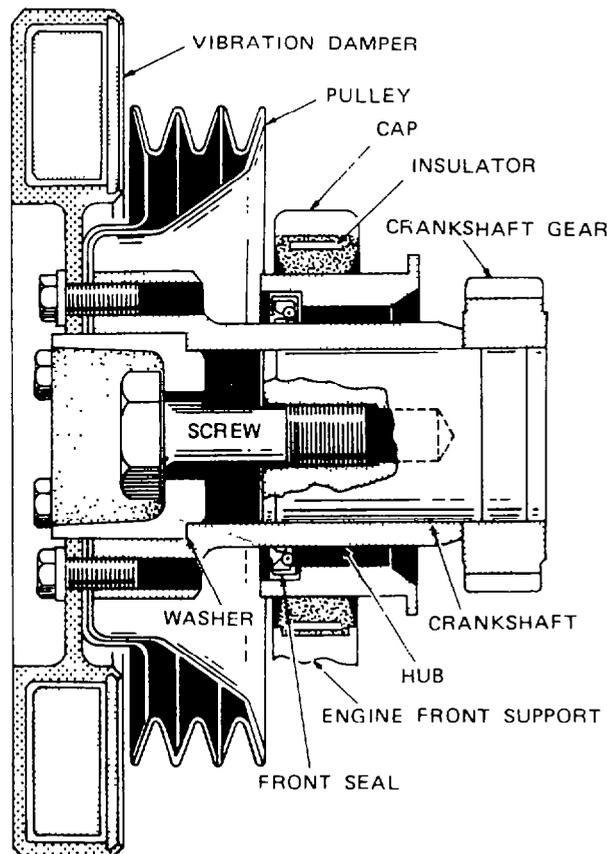

Fig. 89 — Vibration Damper, Hub and Pulley
- d. Position the pulley and vibration damper over the thrust plate securing the hub to the crankshaft (see fig. 89); install the retaining bolts and torque them to 62 Nm (45 lb.ft).